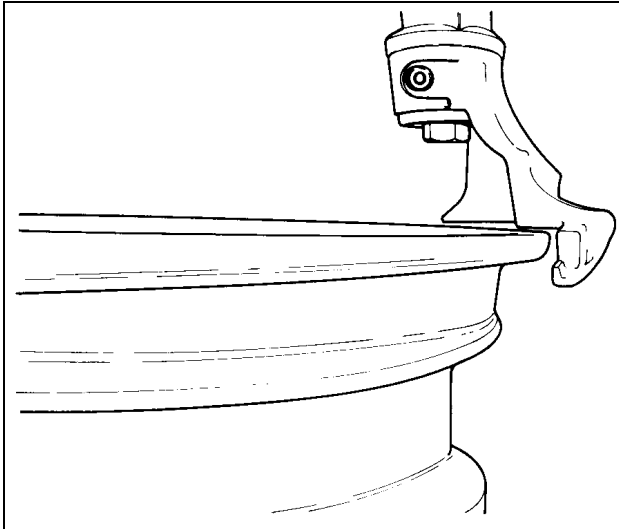

Fig.18
E. Position the mount/demount head in contact with rim edge and lock it into place: the tool automatically moves away from the rim edge vertically. Turn the adjustment knob until the mount/demount head clears the rim flange about 1/16" (2mm): this is necessary to avoid any rim damage (Fig.18).